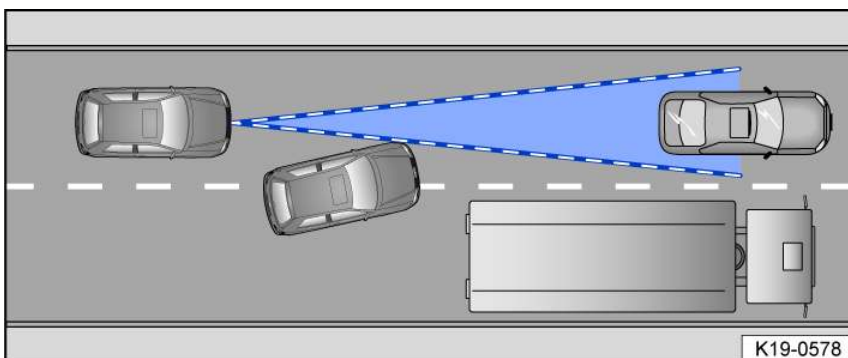

Fig. 99 Changing lanes.
- If vehicles change to your lane close in front of your vehicle fig. 99.